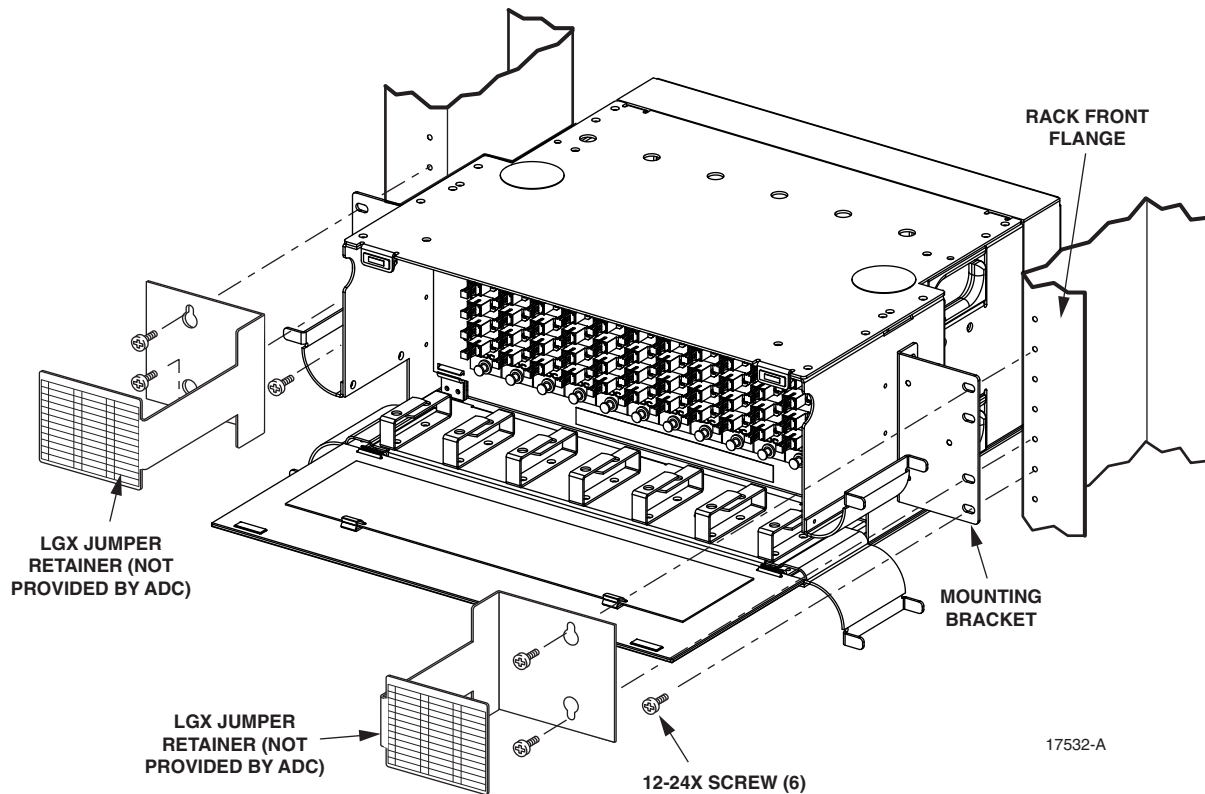

Figure 7. Installing the Connector Module (23-Inch Rack Shown)
Install the panel from the front side of the rack, using the following procedure. Refer to Figure 7.
- **Note:** If jumper retainers are present on the rack, remove the jumper retainers and reinstall them with the chassis as shown in Figure 7. The jumper retainers may be either LGX or the ADC equivalent product.